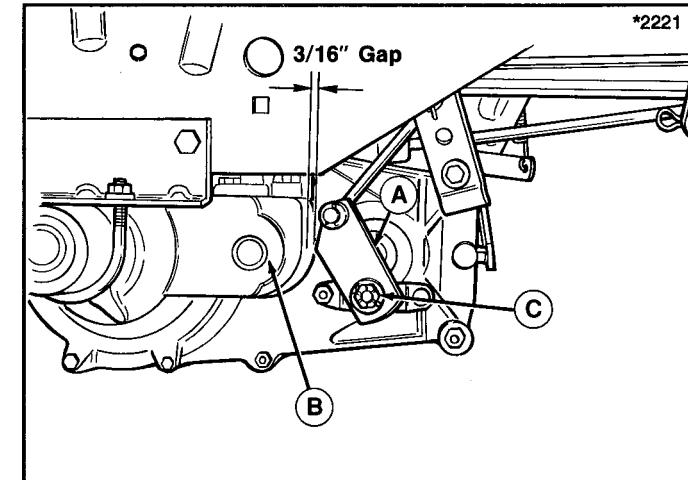
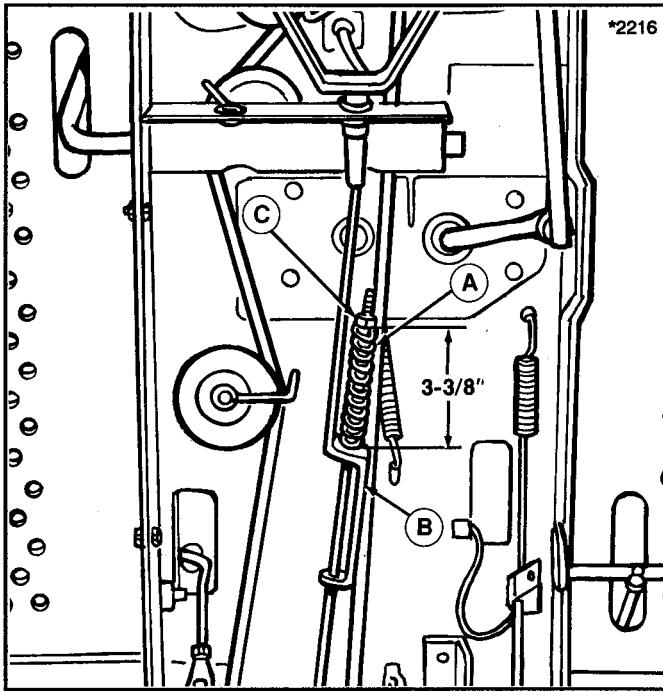

Figure 35. Brake Adjustment (Hydro Model)
Figure 36. Brake Spring Adjustment (Hydro Model)
1. With clutch/brake pedal released, rotate the brake cam (A, figure 35) forward until it stops. There should be $3/16$ " gap between transaxle housing (B) and rear point of brake cam.
2. If adjustment is required, remove cotter pin and turn adjusting nut (C) until proper $3/16$ " clearance is achieved. Turning the nut in will decrease clearance and turning the nut out will increase clearance. Reinstall cotter pin after adjustment.
3. Depress the clutch/brake pedal and latch parking brake over footrest. When compressed, the brake spring (A, figure 36) should be $3-3/8$ ", measured between the rod guide (B) and adjusting nut (C).
4. If adjustment is required, turn adjusting nut (C) until proper $3-3/8$ " spring length is achieved.